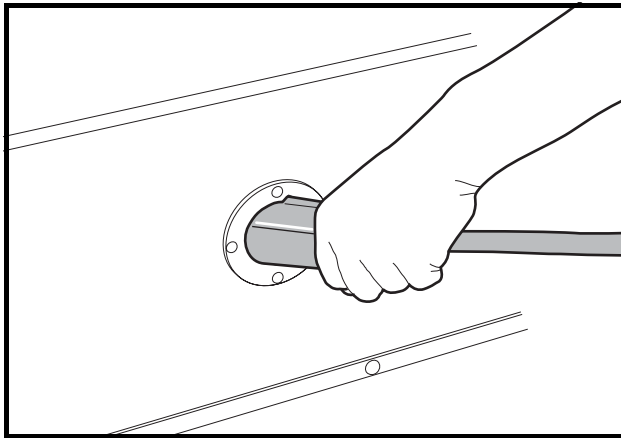

Figure 17 Correct Insertion of Charger DC Plug
- Do not rock or bend the plug. To connect the charger plug to the vehicle receptacle, grasp the plug handle and push the plug straight into the receptacle (Figure 17, Page 38).
Insert the charger DC plug into the vehicle receptacle. The charger will turn on two to ten seconds later (**Figure 17**).